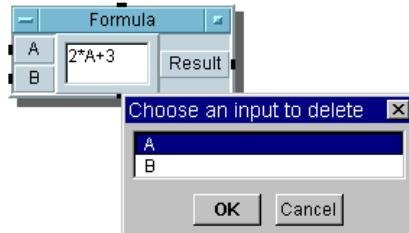

Figure 1-24. Delete Terminal Dialog Box
1. Open the object menu and select Delete Terminal \Rightarrow Input... or Delete Terminal \Rightarrow Output, choose the input or output to delete, and click OK. For example, Figure 1-24 shows the dialog box that appears when you choose Delete Terminal \Rightarrow Input....